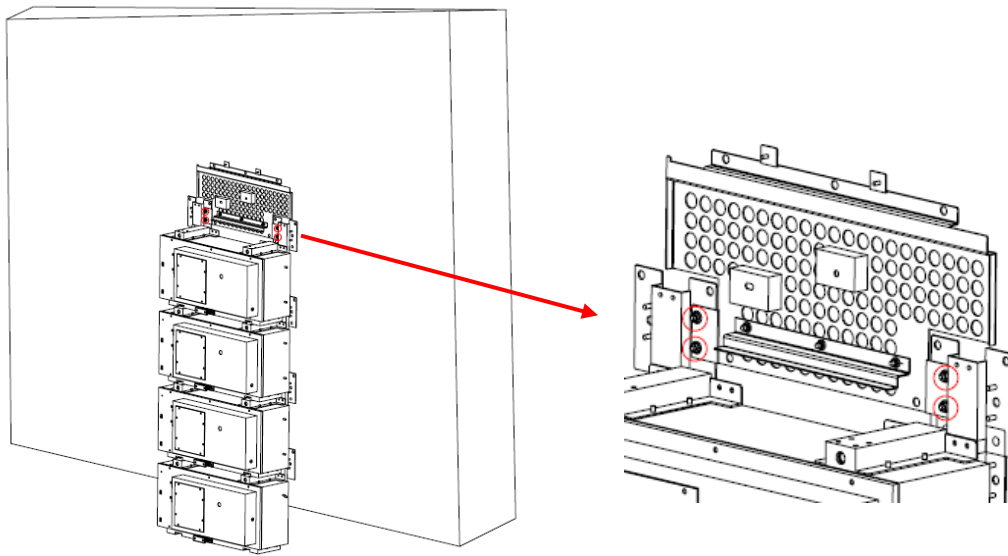

Figure 16 Placing the Rear Bracket of HV50056
Step 8: Fix the HV50056 rear bracket with flange nuts on the two bracket of the top battery, as shown in Figure 16.